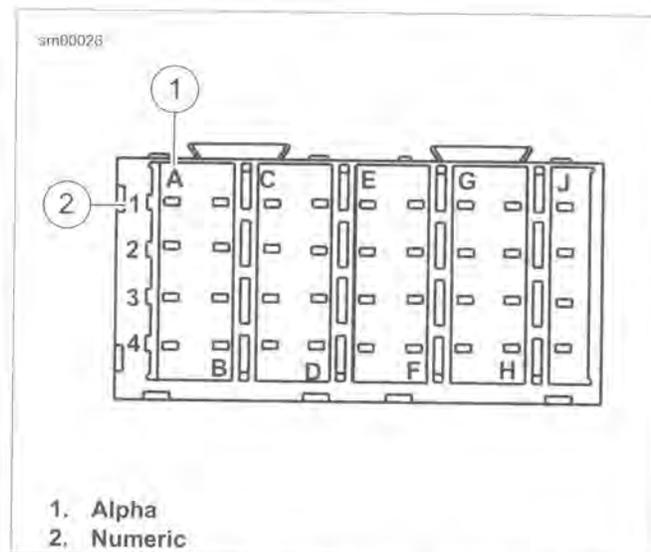

Figure A-17. Fuse Block: Coordinates (typical)
- See Figure A-17. Alpha (1) and numeric (2) coordinates identify the main fuse block terminal cavity. Refer to the main harness wiring diagram.